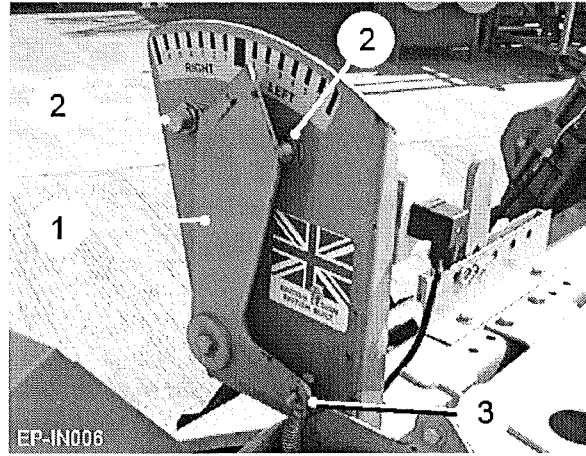

Fig 31
The rear axle self-centring mechanism is combined with the wheel position indicator (item 1, fig 31) and is used to bring the harvester wheels back to the straight ahead position after manoeuvring. The proximity switches (item 2, fig 31) sense the position of the indicator. The centre position is factory-set but may need to be adjusted after a period of service. Should the cable (item 3, figure 31) be in need of adjustment, the wheels will tend to centre to a RH bias. To correct the centre position, the cable can be reset by means of the cable adjuster on the RH axle.
The setting of the proximity switches (item 2, figure 31) in the axle position indicator will only need adjustment if the unit has been dismantled for any reason and should be carried out by a competent service engineer.